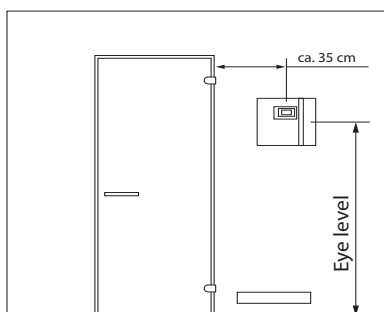

Fig. 3
1. The 3 mm diameter boreholes for the supplied wood screws 4 x 20 mm to be drilled according to the dimensions shown in Fig. 3 + 3.1.